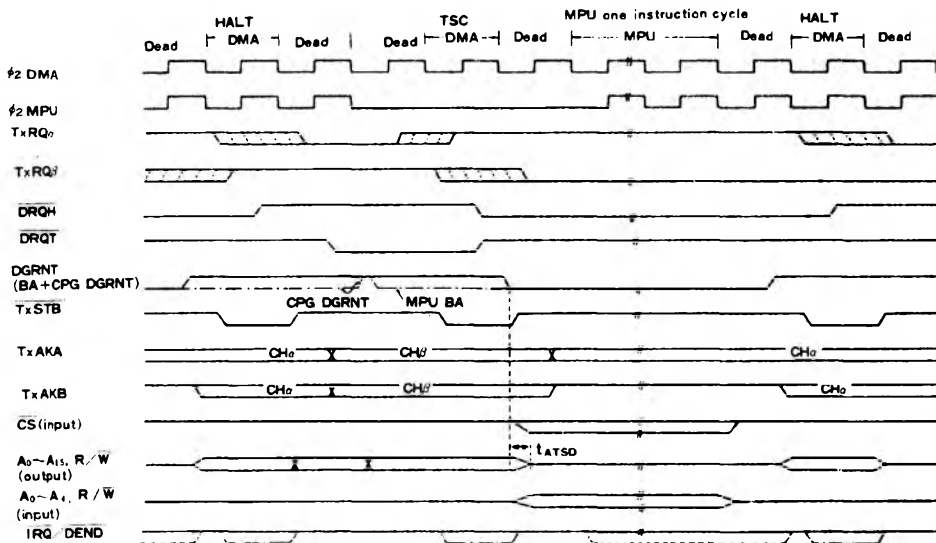

Figure 25 Channel Change (HALT Mode → TSC Mode → HALT Mode)
- (3) From HALT mode to TSC mode (Fig. 25)
Both in the case of HALT → TSC mode and in the case of TSC → HALT mode, DMA operation timing is based on the same idea as the above two kinds of mode change. (In detail, see Fig. 25).